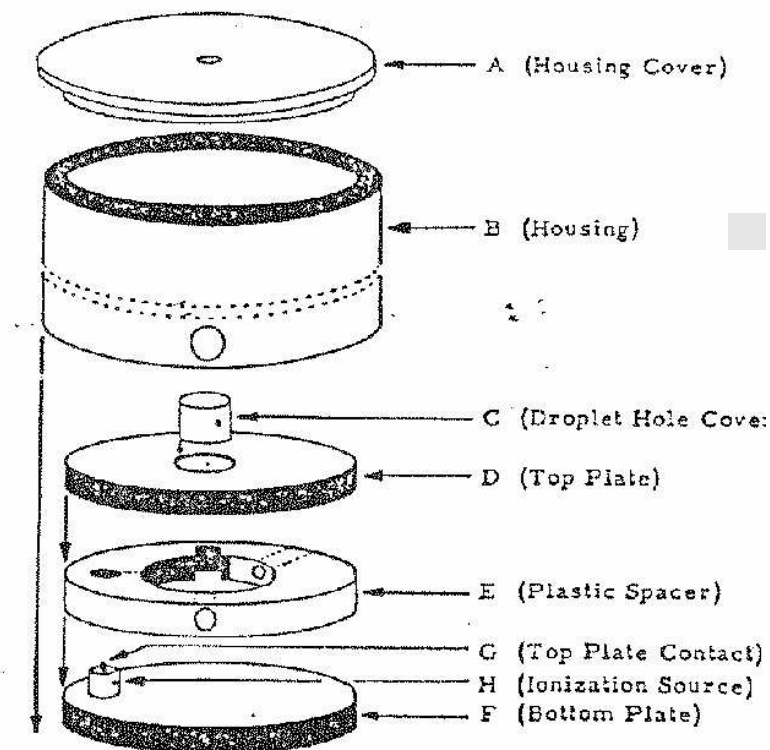

Figure 2: Parts for the capacitor and chamber.
3. You need to disassemble the unit to clean the plates. **Make sure the paddle is in its central position when disassembling or touching the top plate.** The capacitor is disassembled by removing the following parts (Fig. 2): A: Housing cover, B: Housing, C: Droplet Hole Cover D: Top Plate, E: Plastic Spacer. Note: take care while handling the brass plates to ensure that no scratches or pits are formed on the inner sides of either plate.